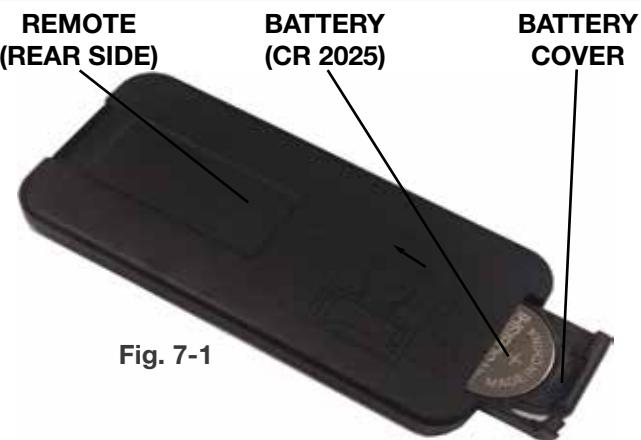

Fig. 7-1
- To remove the battery holder, turn the remote onto the front side and press the left side lever towards the center while pulling the battery holder out using the slot provided (**Fig. 7-1**).